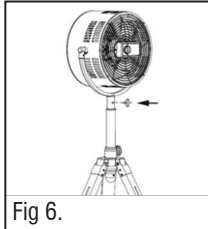

Fig 6.
3.2.2.3. Insert the locking knob through the holes and tighten the locking knob as shown in Fig. 6.